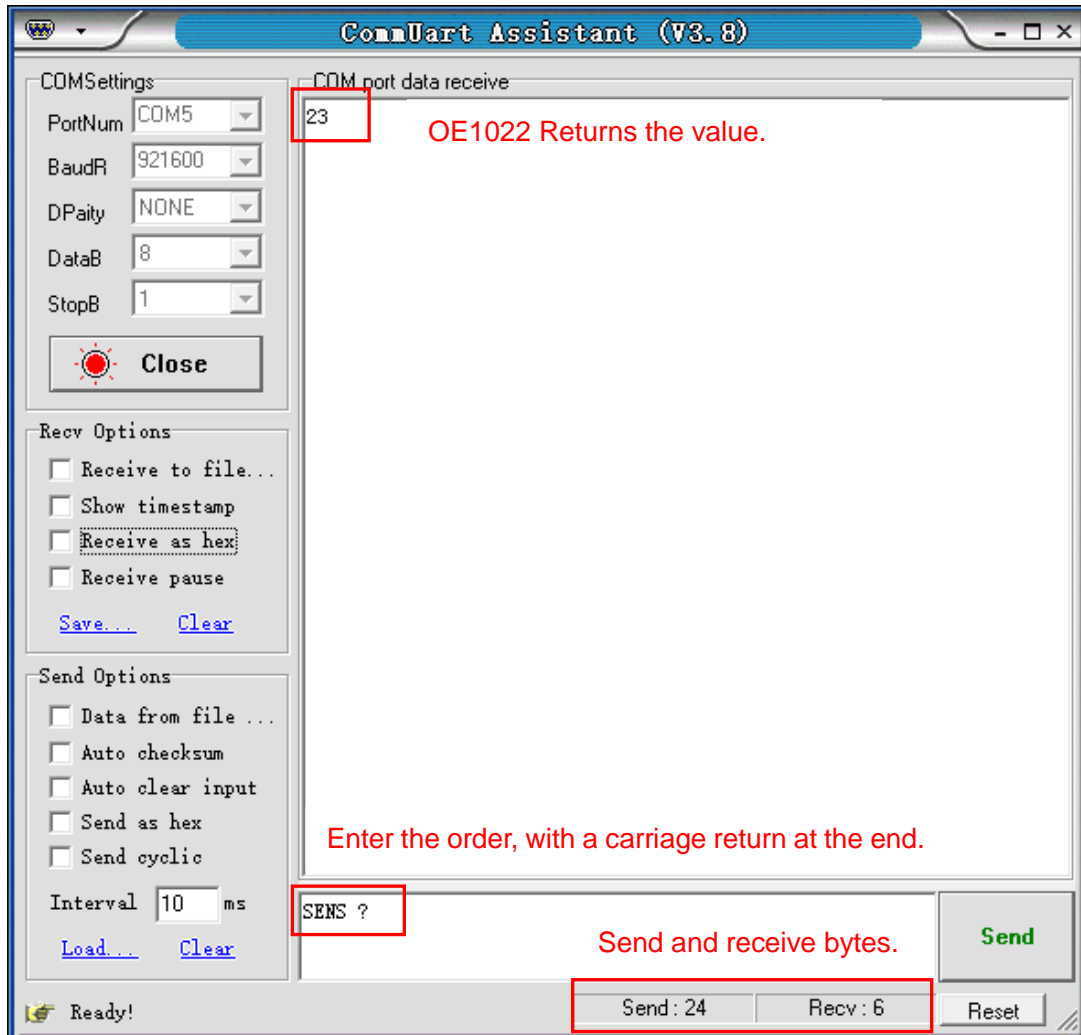
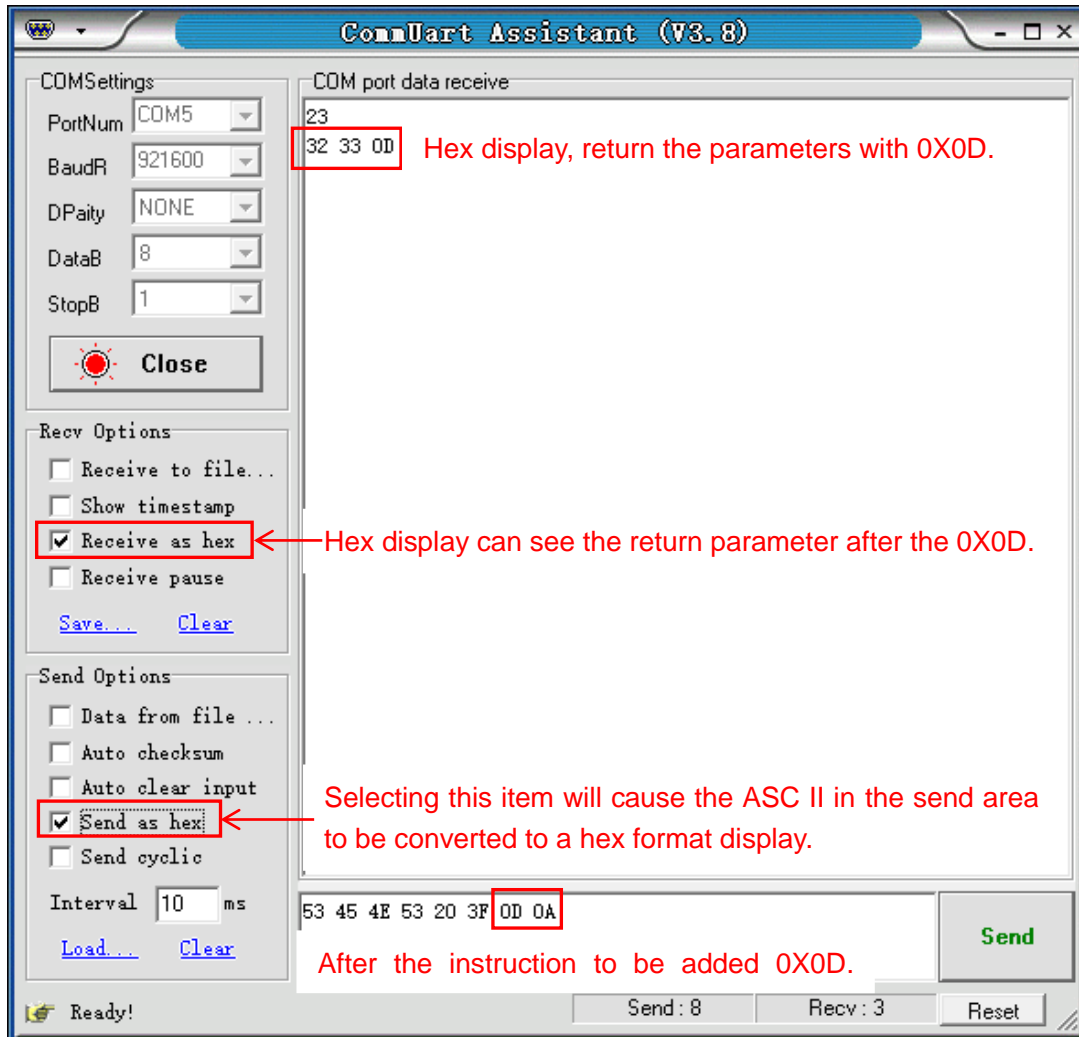

Fig.109 ASCII words send and receive instructions
Fig.110 Send and receive HEX instructions
1) The commands consist of four mnemonics and several parameters. Several commands at the same line are separated by semicolons. More details see the Chapter Remote Programming. Note that one line should be ended by a terminator: a carriage return. The result is like the Fig.109 and Fig.110.